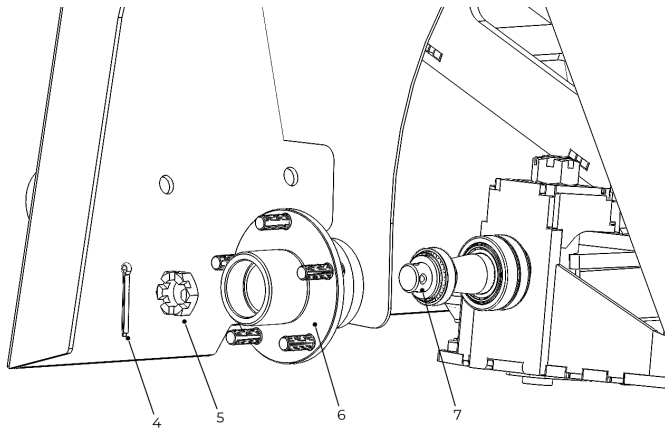

Figure 43. Hub Maintenance.
2. Remove the aluminum case filler plug (4). (Figure 43)